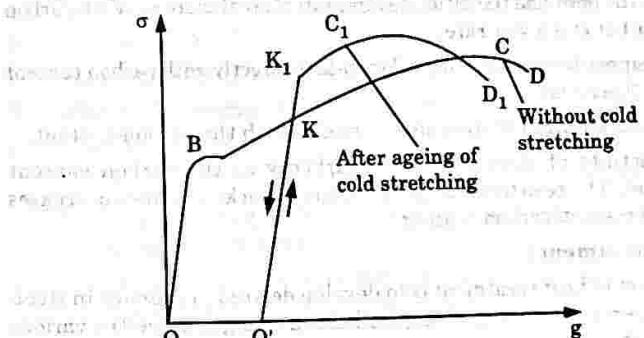

Fig. 2.13.1. The curve of cold stretching of steel bar.
- As shown in Fig. 2.13.1, the stress-strain curve of steel is  $OBKCD$ ; if the steel is stretched to point  $K$  and release the tension, the steel will recover to point  $O'$ ; and if it is stretched again, the stress-strain curve will be  $O'KCD$ , and the new yield point ( $K$ ) is higher than the original yield point ( $B$ ), but the elongation decreases.